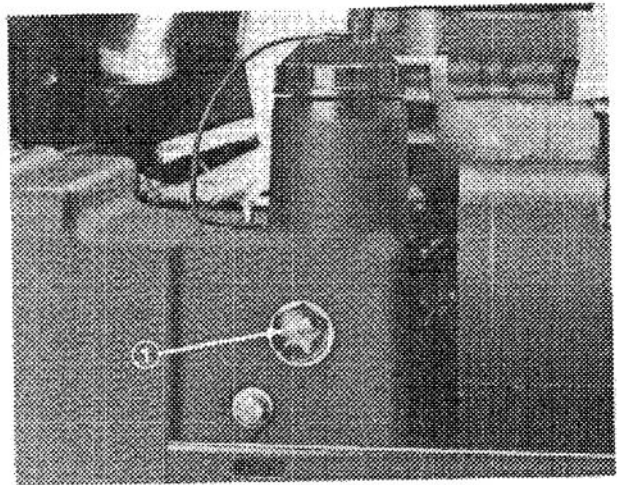

Figure 47
5. With cutting units raised and oil warm, look into sight gauge (Fig. 47). If hydraulic oil is not visible, add enough to raise level. To prevent over filling, do not fill if oil is cold. DO NOT OVER FILL.